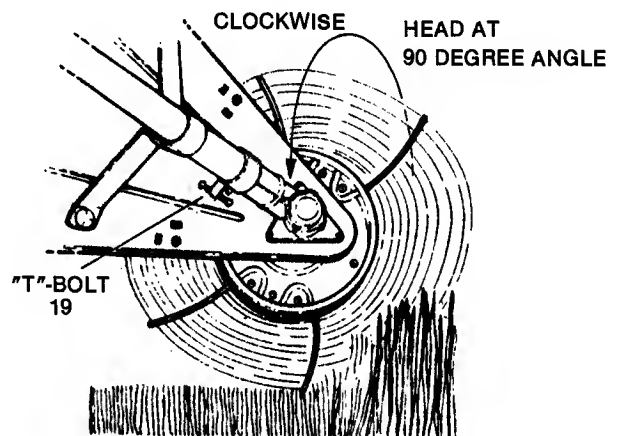

FIG. 7 - EDGING OPERATION
ADJUSTING FOR VERTICAL EDGING - Locate pin (Y) in LEFT hole in MAIN FRAME (13) top. Loosen "T"-BOLT, rotate head CLOCKWISE (90°) until it stops - retighten "T"-Bolt. Refer to FIG. 7.